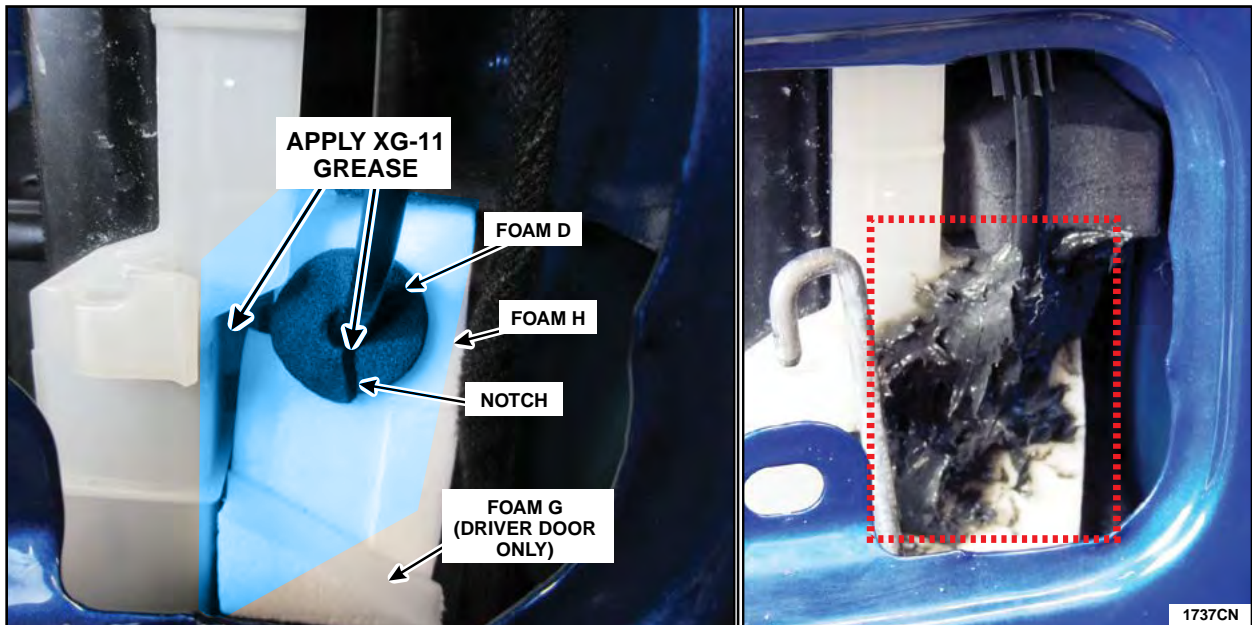

FIGURE 37
9. Apply XG-11 grease on top of and around Foam D after Foam D is installed. The Foam D notch, the gap between the cable and Foam D, and the gap between the door glass run and Foam H must be covered with grease. See Figure 37.